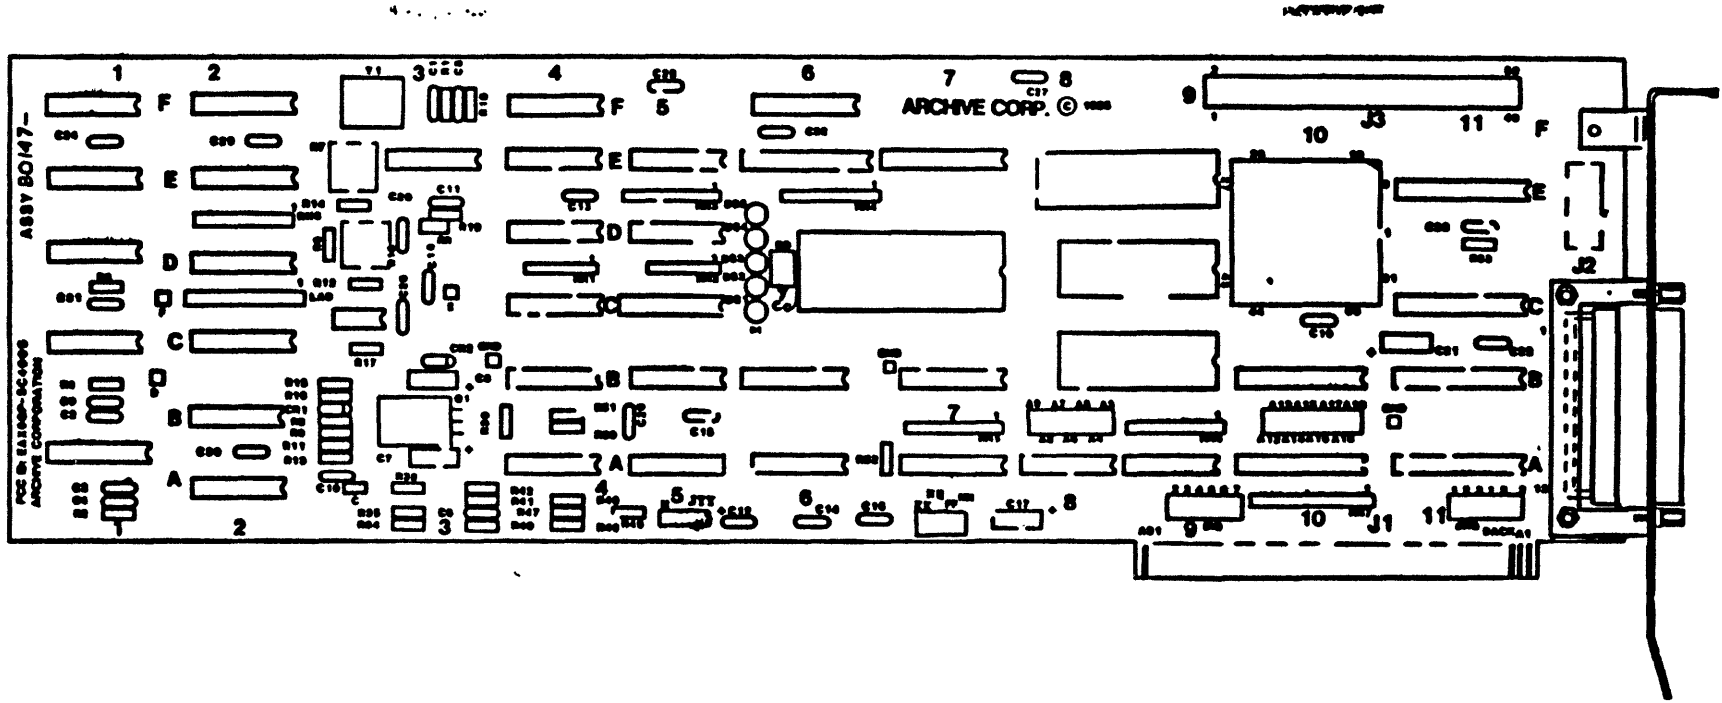

Figure 1.1 SC-499 Tape Controller PCB Assembly
The SC-499 Tape Controller (Figure 1-1) is designed to interface streaming 1/4-inch cartridge tape drives to the IBM Personal Computer (PC), XT, AT and compatible systems.